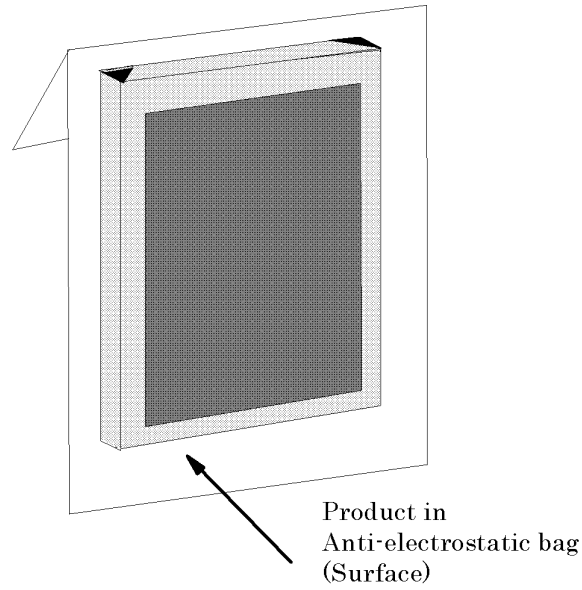

Fig.7
- (1) Each of LCD module is packed in anti-electrostatic bag(Fig.7)